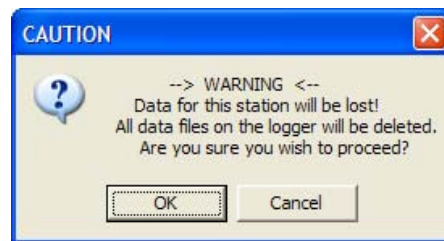

Figure 6. Program upload warning box
7. Click on the “Send” button in the “Program” group. This will bring up an “Open” dialog box. Select the program file to send to the CR1000 (“AllParams.cr1” in the example). When you click on the “OK” button the message box in Figure 6 will appear. Sending a program to the logger erases all the stored data.